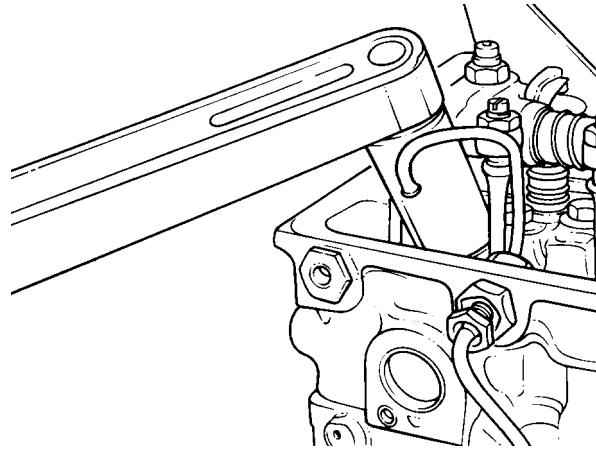

Figure 107 - Injector Thrust Bolt - Installation
- e. Torque the injector thrust bolt to 70 Nm with the tube spanner (Table 2, Item 7), (Fig 107).